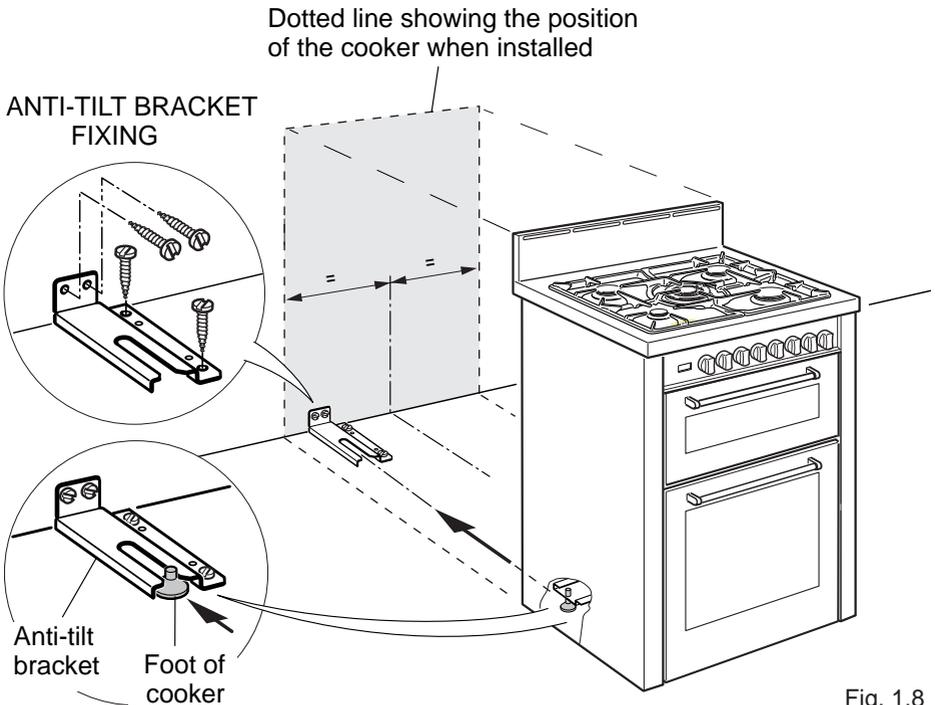

Fig. 1.8
1. After you have located where the cooker is to be positioned, mark on the wall and on the floor the place where the four screws of the anti-tilt bracket have to be fitted. Please follow the indications given in fig. 1.8.
2. Drill four 8 mm diameter holes for the fixing screws (two in the wall and two in the floor—see fig. 1.8) and insert the plastic plugs supplied.
3. Attach the anti-tilt bracket to the floor and rear wall using the four screws supplied, as shown in fig. 1.8.
4. After attaching the anti-tilt bracket securely, slide the cooker into place. Ensure that the rear left foot slides under the bracket, as shown in fig. 1.8.